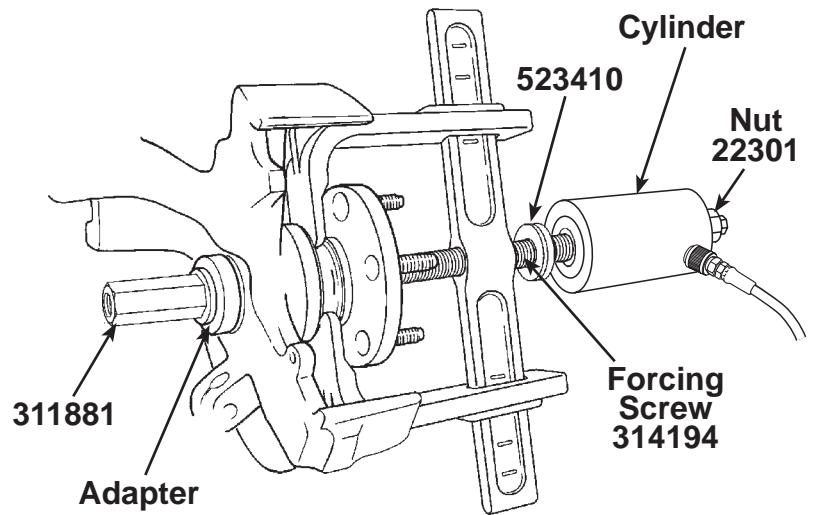

Figure 4
1. Lubricate the forcing screw from this kit, assemble components, and attach Hub Grappler to hub as shown in Figure 4.